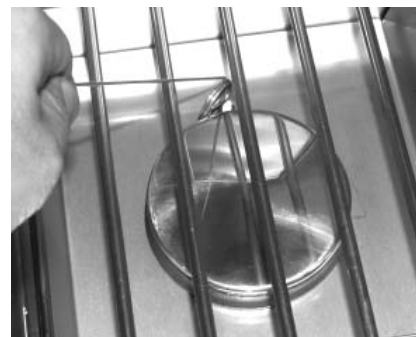

Fig. 21-2 - Manual lighting
2. Insert either a burning long-barrel butane lighter, a burning long-stem match, or a burning match held by a wire extension holder through the cooking grid opening to the burner (Fig. 21-2). Hold the flame against the edge of the burner.
4. If the burner does not light within five (5) seconds of turning the control knob, **immediately depress the knob and turn the valve to OFF**. **WAIT FIVE (5) MINUTES** before repeating steps 2 through 4 of the MANUAL LIGHTING instructions.